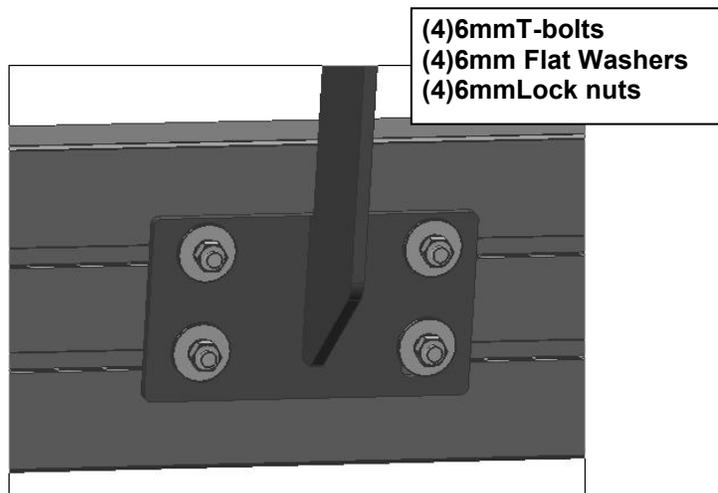

Fig 16 Bracket Installation
6. Once all (2) Brackets have been installed, Select a Running Board. Slip (8) 6mm T-Bolts into each bottom channel (**Figure 15**). Carefully position the Running Board onto the Mounting Brackets. Attach the Running Board to the Mounting Brackets with (4) 6mm T-bolts, (4) 6mm flat washers and (4) 6mm lock nuts, (**Figure 16**). Do not tighten hardware at this time
- c. Drill (2) 1/4" holes through the pinch weld for each Support Bracket. **IMPORTANT:** Do not drill too close to the bottom edge of the pinch weld. Adjust the Brackets as necessary to move the slots up the body panel away from the edge. Drill the holes toward the outside of the marked slots.